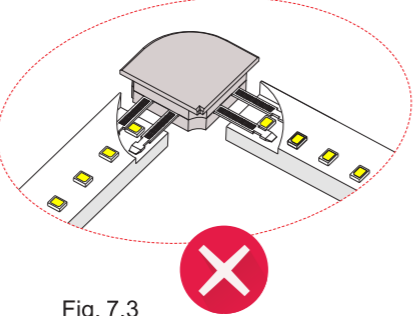

Fig. 7.3
- Fig. 7.3 — Do not insert the 4 pins at the surface of the PCB and LED, which will cause the light to short circuit and burn out the entire roll of the light, which cause a fire.